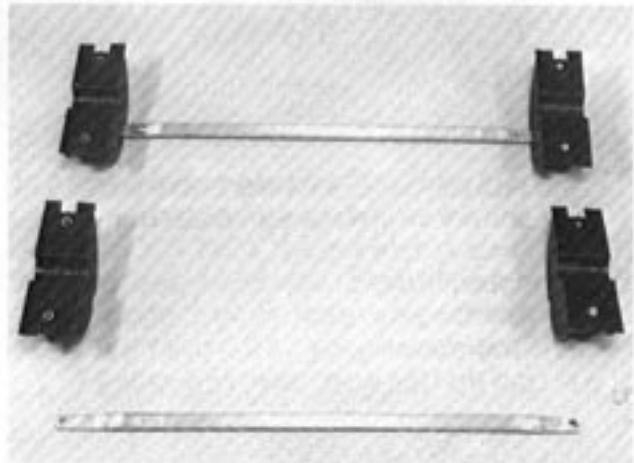

FIGURE 22 - COMPLETED PREPARATION OF END PLATE HALVES
8.04 Figure 22 shows the completed LOCK-TAPE Sealant application to the End Plate halves.